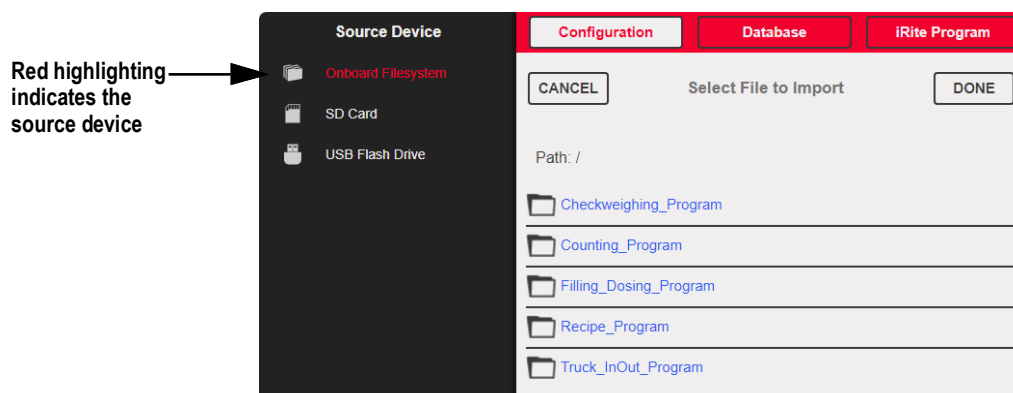

Figure 14-1. Import Configuration
NOTE: The Import Configuration screen looks the same whether importing from an onboard file system, a micro SD card or a flash drive. The only difference is the source device is highlighted in red on the left side of the screen. For an example, see Figure 14-1, a file is being imported from an onboard file system.
2. Press **Import from File**. The Import Screen displays, see Figure 14-1 on page 127. Load both the .rev and .cod files to use the built-in application programs.
4. Select **Import from File**. The Import Screen displays, see Figure 14-1 on page 127.
2. Press **Import from File**. The Import Screen displays, see Figure 14-1 on page 127.
3. Press **Import from File**. The Import Screen displays, see Figure 14-1 on page 127.